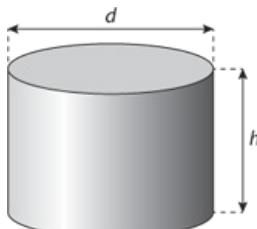

Figure 1.1: A cylinder.
- e Extension question. The volume V of a cylinder with diameter d and height h as shown in Figure 1.1 is given by: